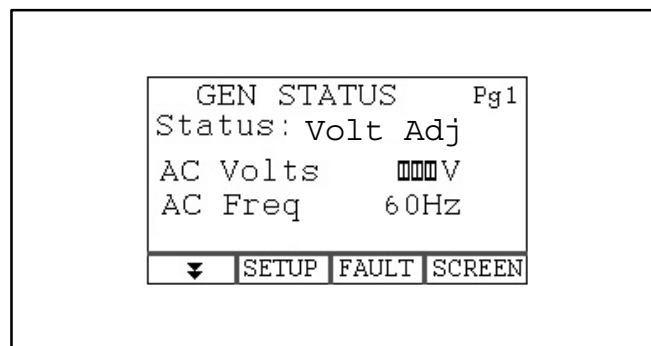

FIGURE 6-10. VOLTAGE ADJUSTMENT SCREEN
Note: The GEN STATUS screen will not display AC Voltage while the genset is in voltage adjust mode. The line for displaying the voltage is filled in as shown in Figure 6-10. A separate voltmeter is required for voltage adjustment.
2. Rapidly press **START** 6 times *during the first minute after startup* to put the genset controller into *voltage adjust mode*. The green status lamp will blink rapidly and the Display will change Status from *Running* to *Volt Adj* (Figure 6-10).